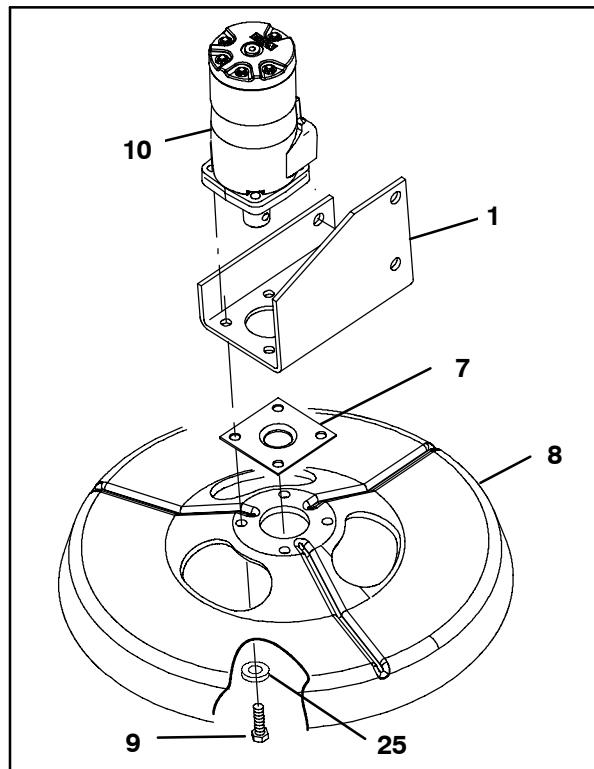

FIG. 4
13. Use four hex screws (9) and four flat washers (25) to install the motor string guard (7) and brush guard (8) onto the side brush motor bracket (1) and brush motor (10). Refer to Fig. 4.